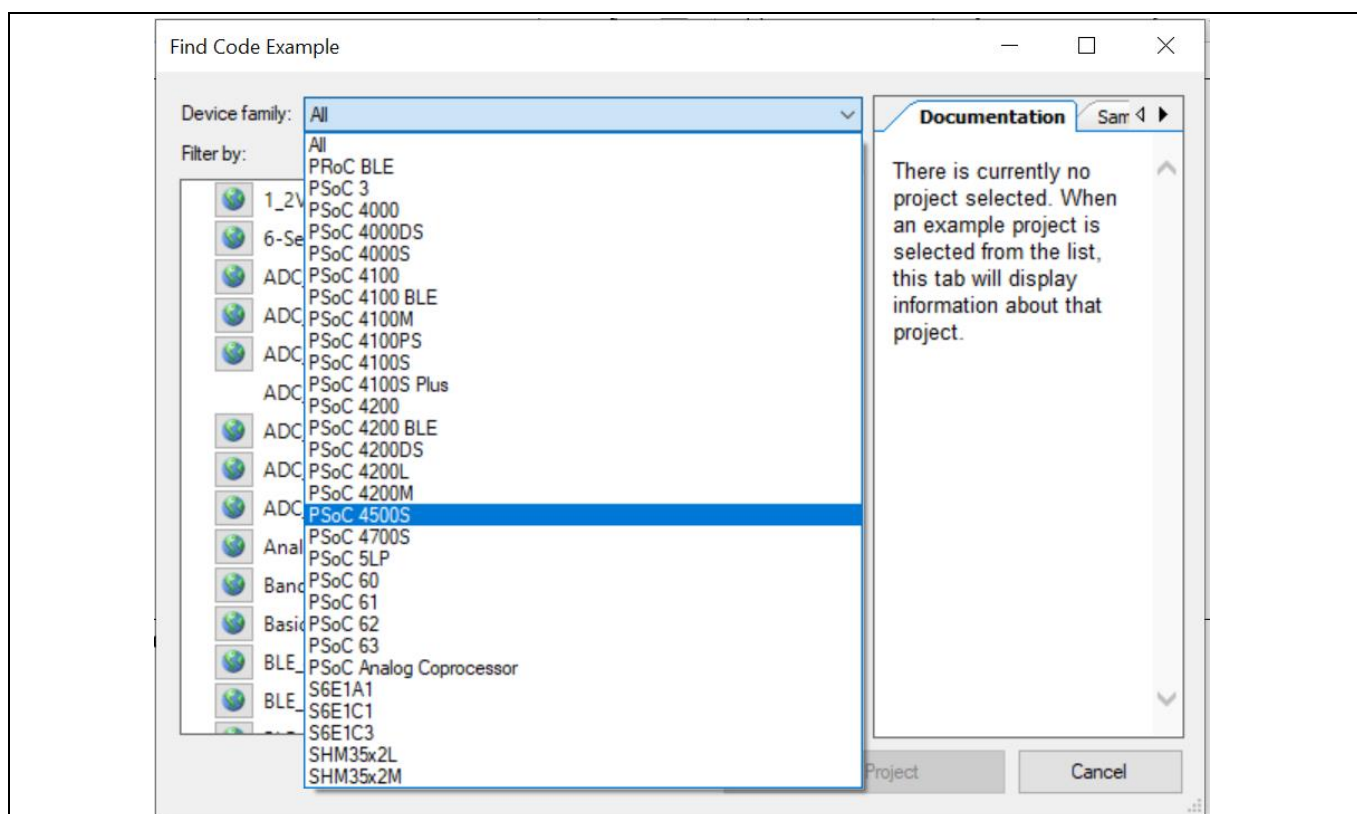

Figure 20 Selecting PSoC 4500S Device Family in Find Code Example Window
3. In the Find Code Example window, set the **Device family** to **PSoC 4500S** as shown in Figure 20.